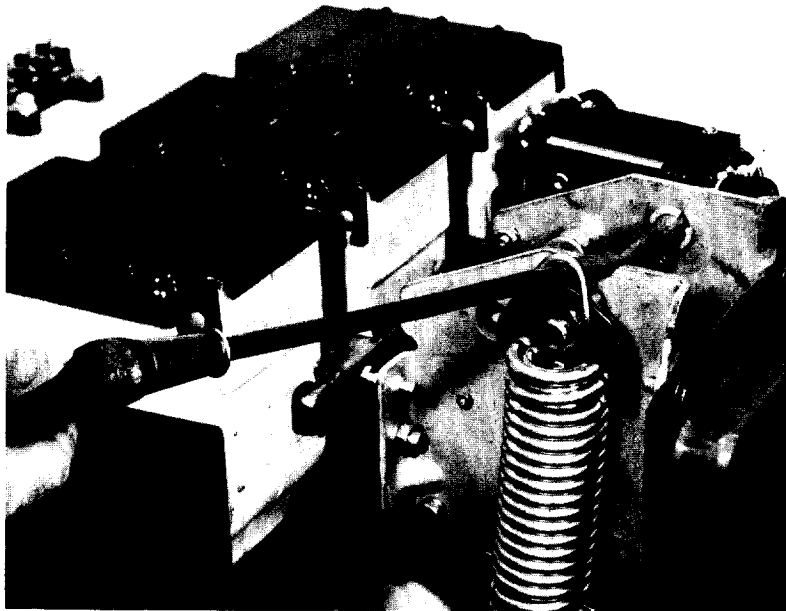

FIG. 13
12. Use the double hook to extend and seat the closing spring assembly upper anchor plate into the groove of the spring pin, (see figure 13).